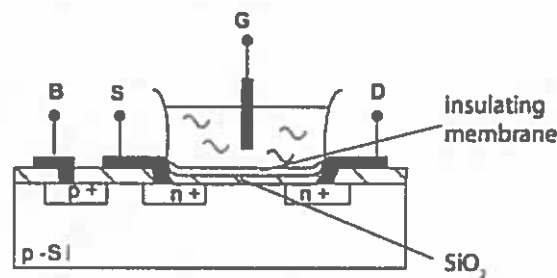

Figure 3.2
c) The sensor shown in Figure 3.2 is an Ion-sensitive Field effect transistor.